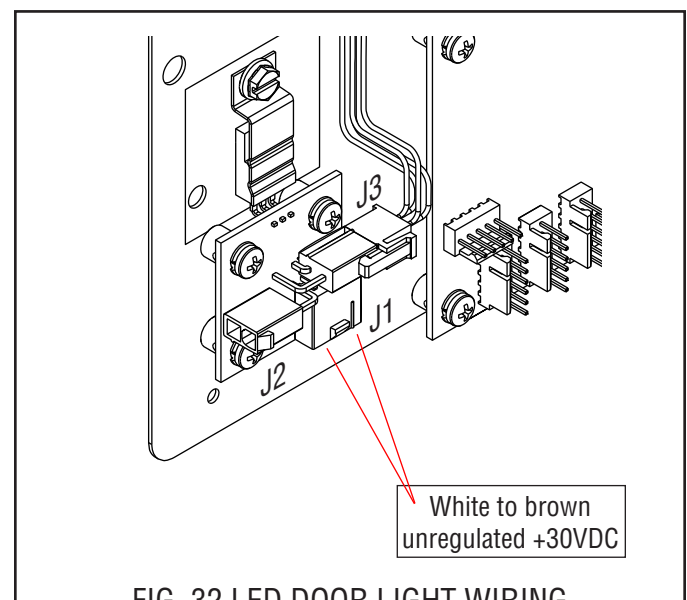

FIG. 32 LED DOOR LIGHT WIRING
4. Check for supply voltage (unregulated +30VDC) across brown wire and white wire at J1 of the regulator board. (FIG 32).
6. Refer to Fig. 32 and reconnect wires to the LED regulator board.